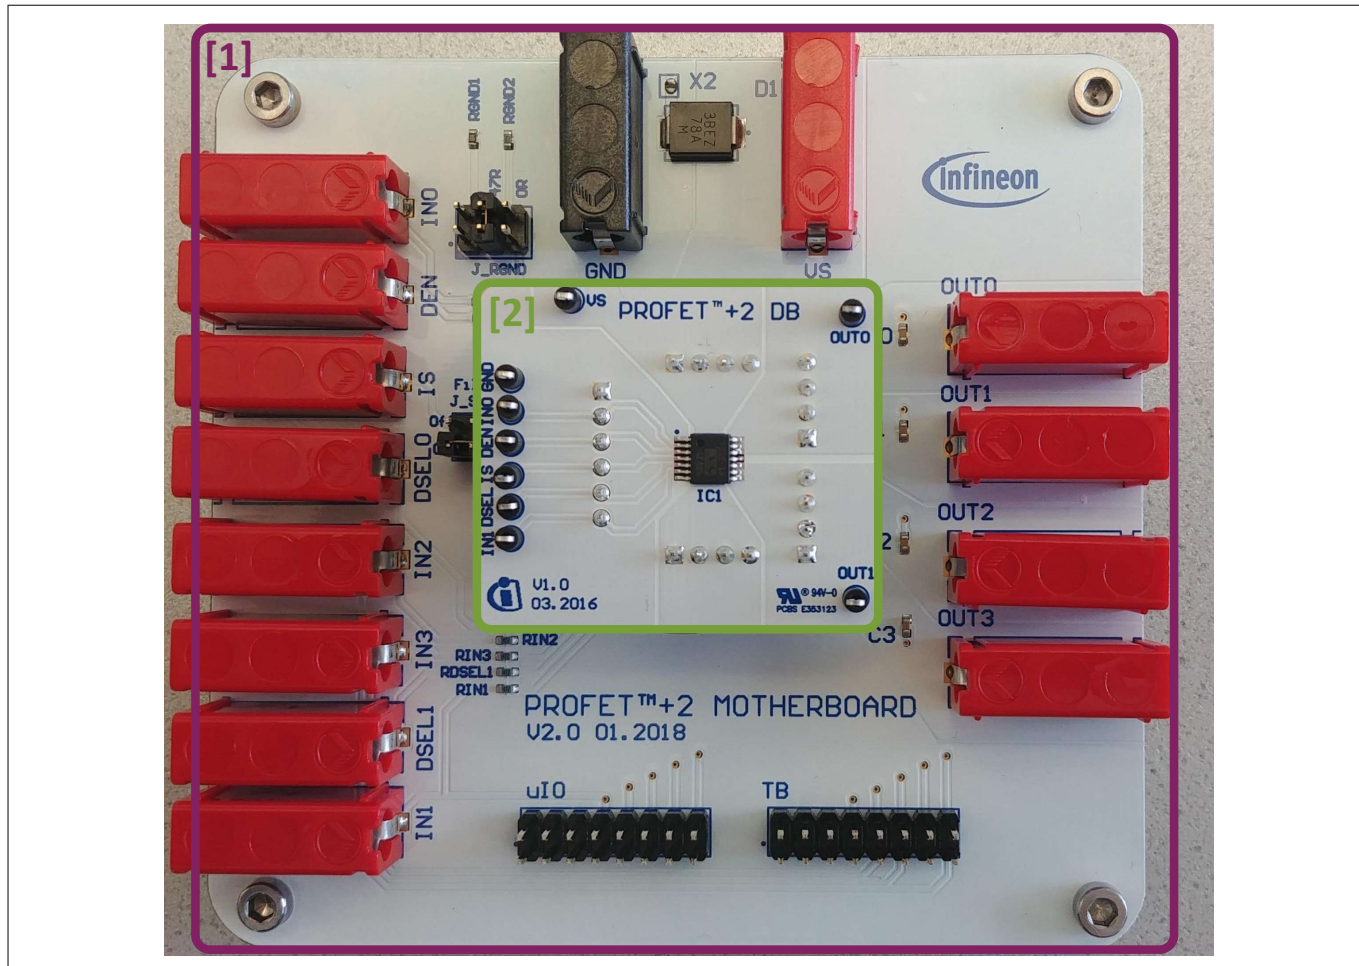

Figure 1 PROFET™ +2 12V MB [1] and DB [2]
The PROFET™ +2 12V customer evaluation kit consists of a motherboard (MB) and a daughterboard (DB). **Figure 1** below shows the DB [2] plugged onto the MB [1].
1	PROFET™ +2 12V motherboard (see Figure 1)
2	PROFET™ +2 12V daughterboard (see Figure 1)